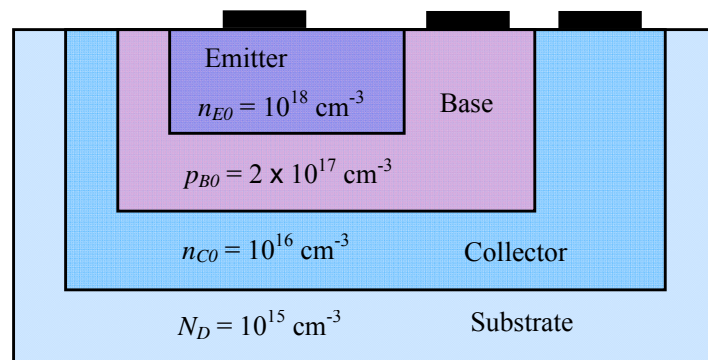

Fig. Q.4
4. Figure Q.4 below shows the structure of a silicon n-p-n bipolar transistor with the regions and majority carrier concentrations as indicated. Starting with a silicon wafer (substrate) doped with donors at a concentration  $N_D = 10^{15} \text{ cm}^{-3}$ , the different regions (collector, base, emitter) are made by successively introducing dopants into selected regions by ion-implantation through the top surface. Assume, for simplicity, that uniform doping concentrations can be achieved in each of the regions.